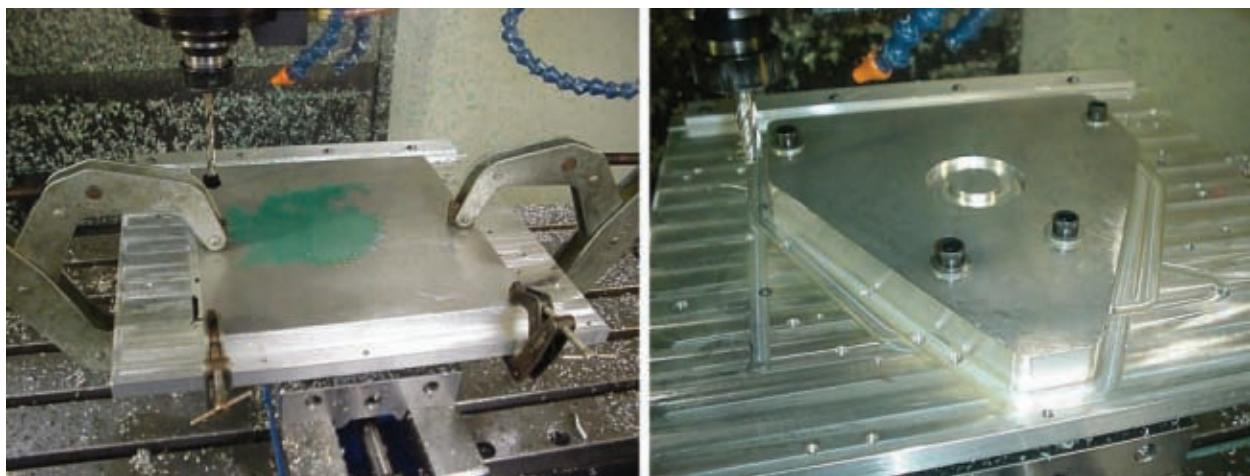

Figure 2-4 A tap drill can be added to the part drilling program to drill into a fixture plate.
4. At the end of a CNC program that drills holes in the part, add a tap drill to drill deeper into the mounting fixture. (see Fig. 2-4)